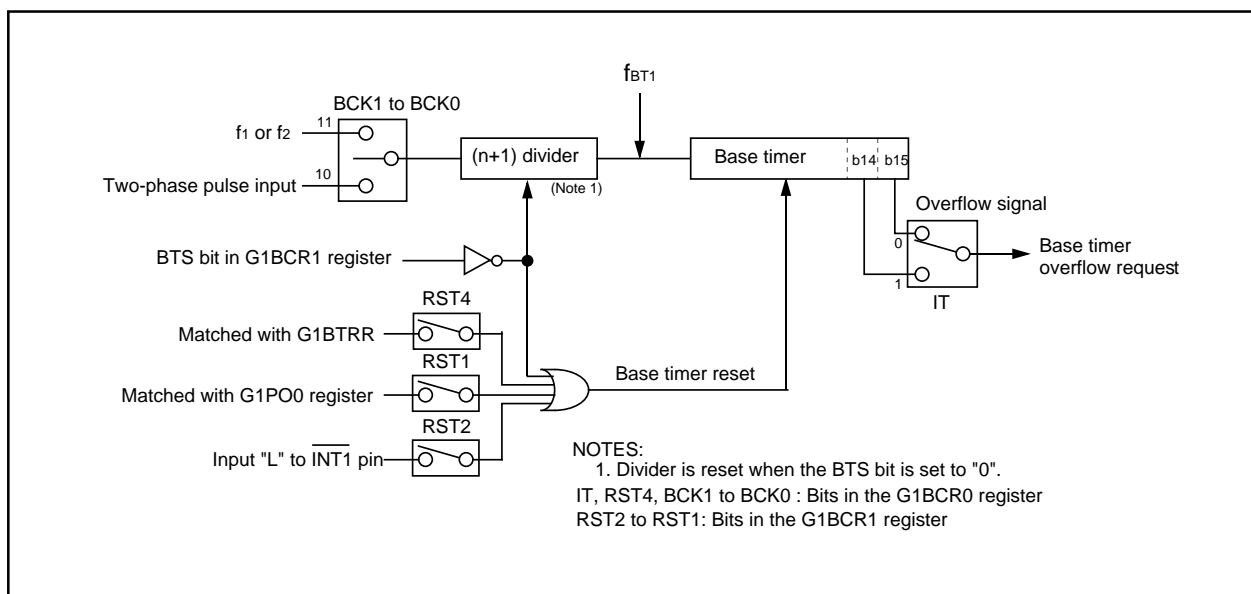
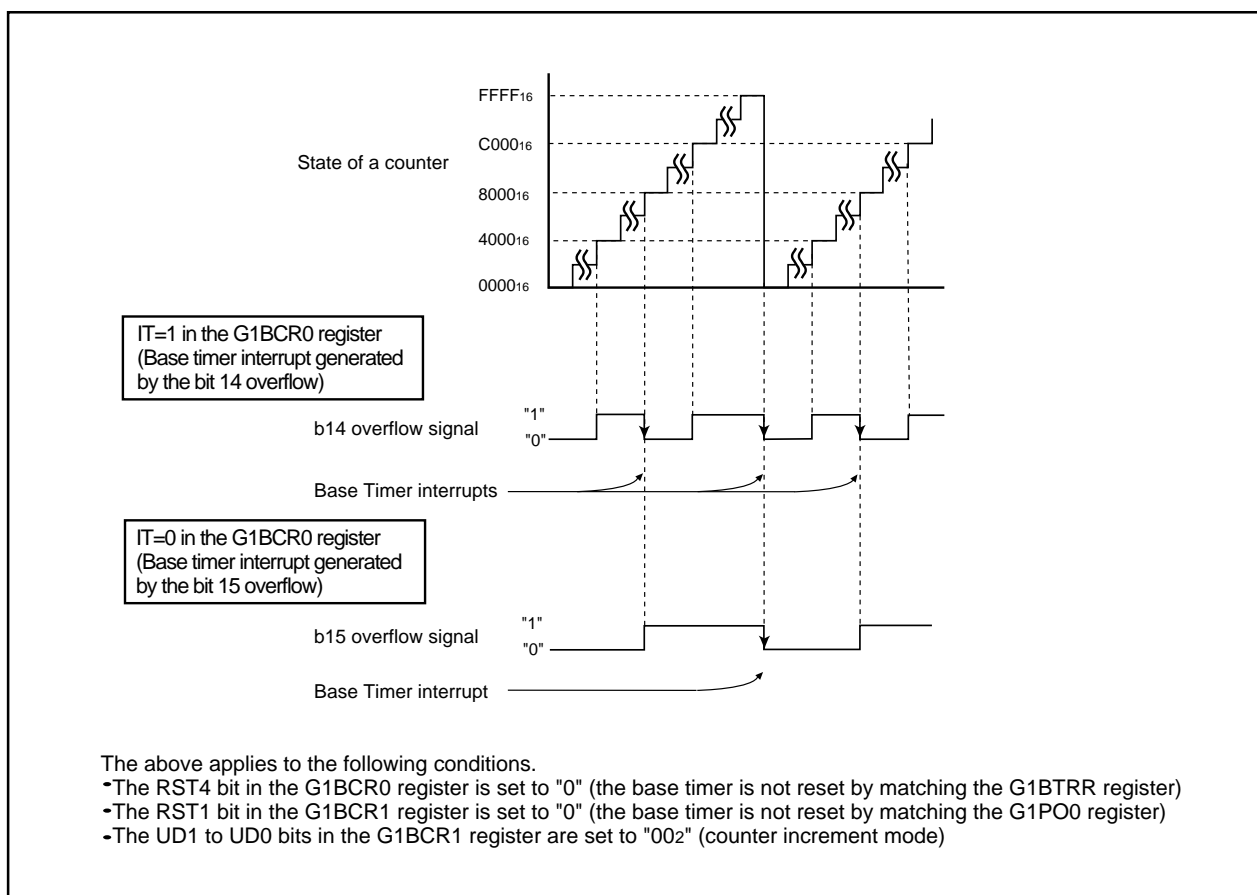
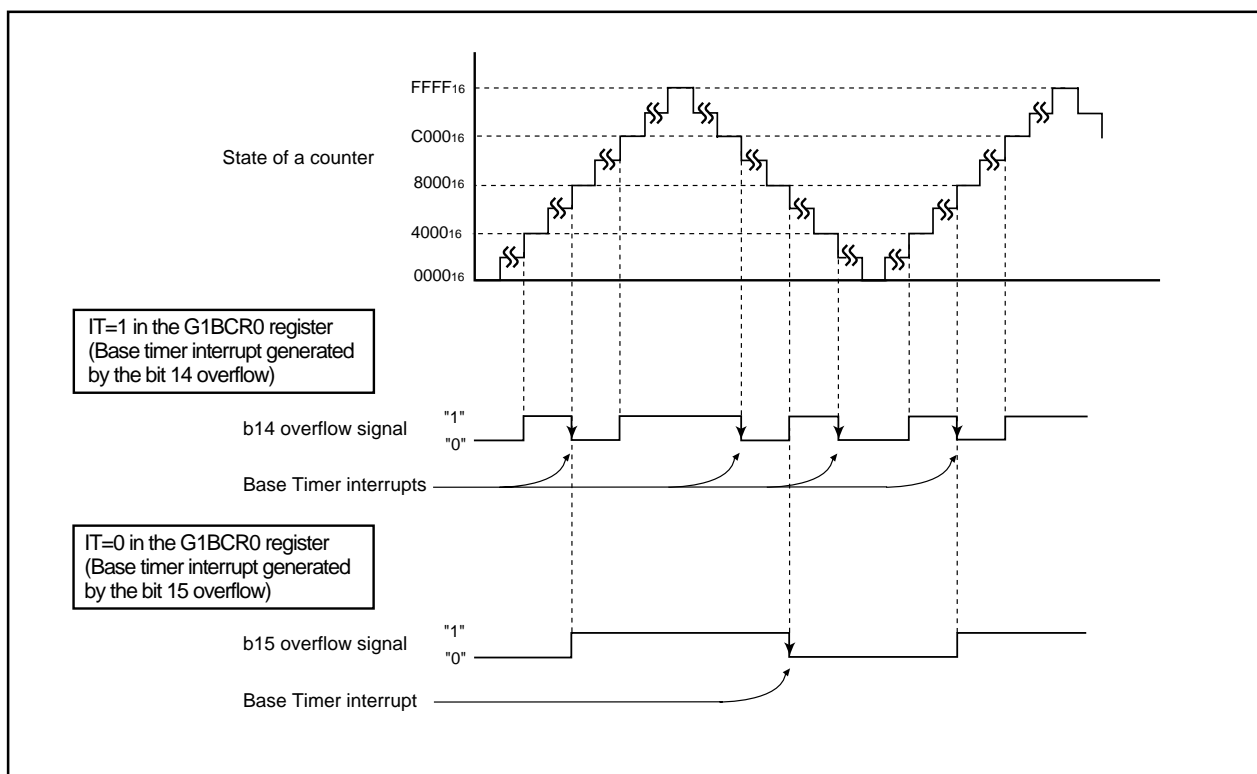
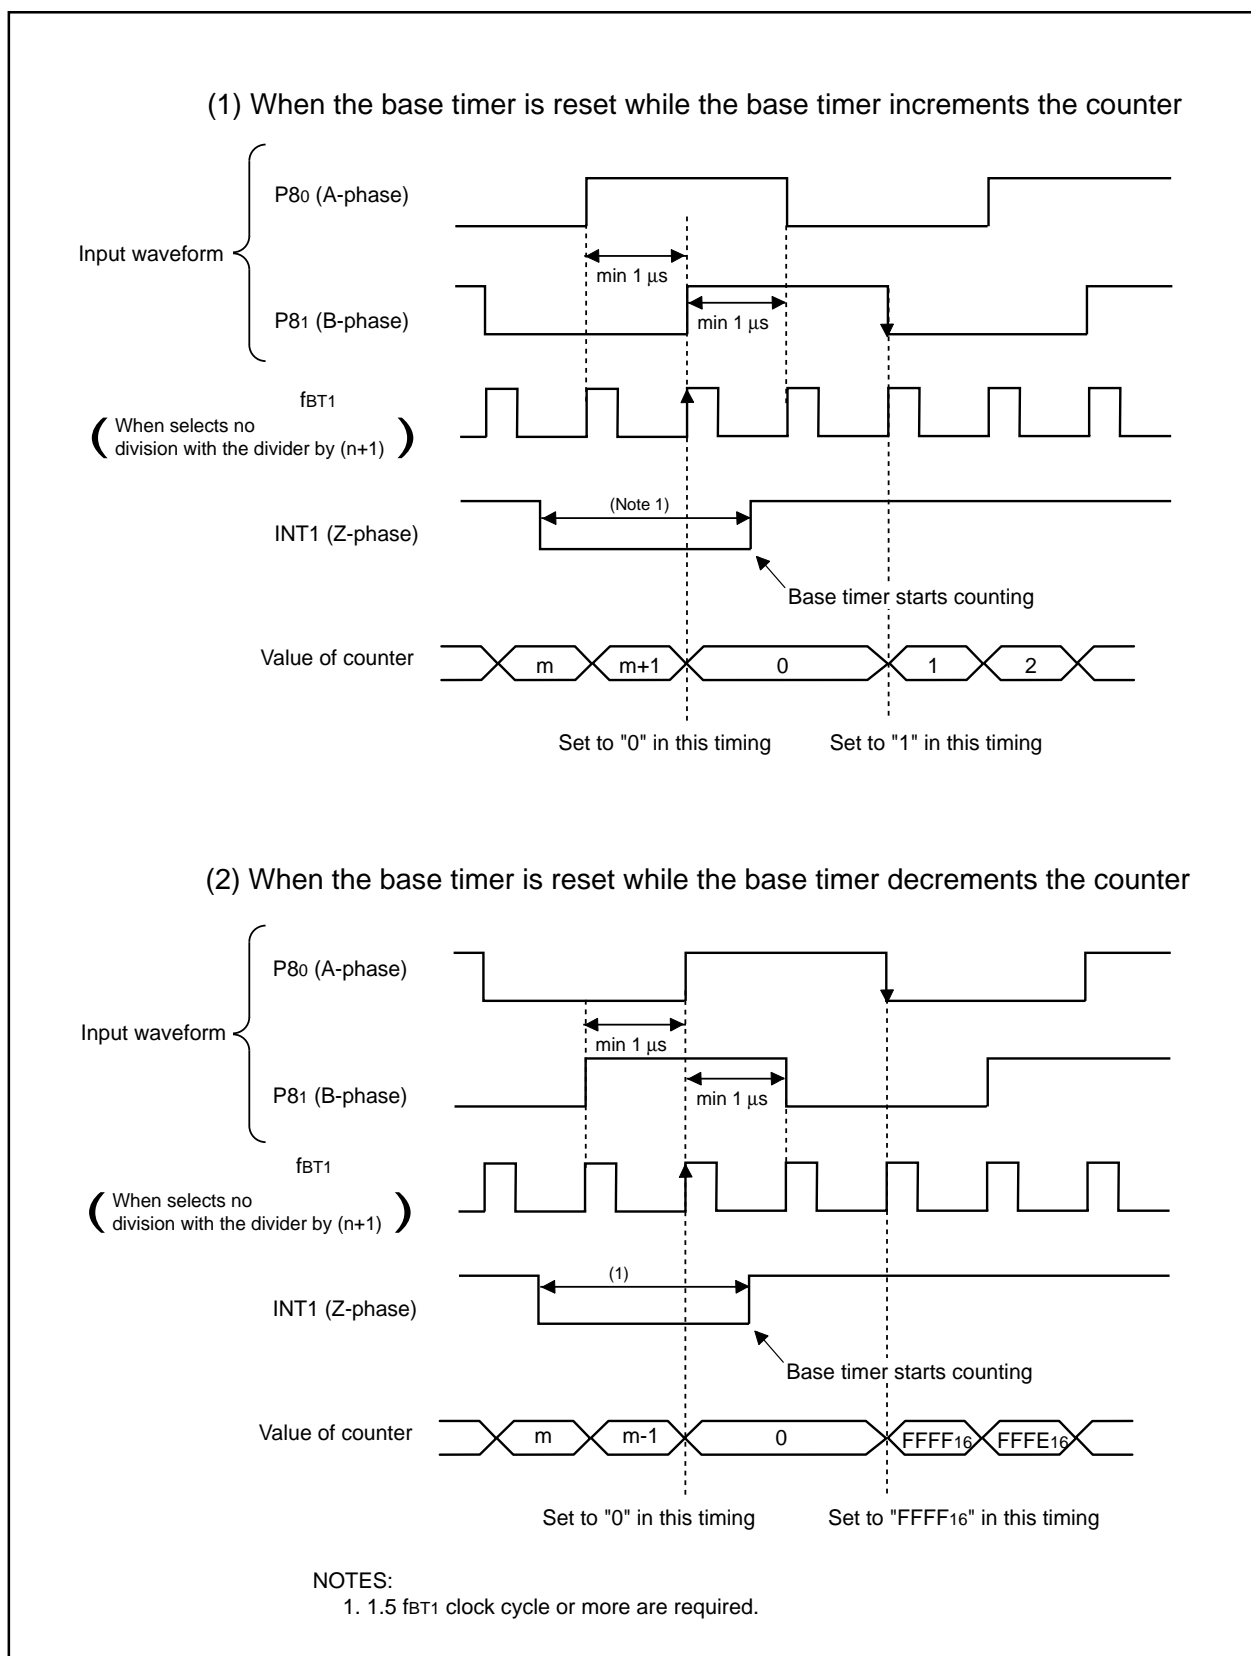

Figure 13.11 Base Timer Block Diagram
Figure 13.12 Counter Increment Mode
Figure 13.13 Counter Increment/Decrement Mode
Figure 13.14 Base Timer Operation in Two-phase Pulse Signal Processing Mode
Figure 13.11 shows a block diagram of the base timer. **Figure 13.12** shows an example of the base timer in counter increment mode. **Figure 13.13** shows an example of the base timer in counter increment/decrement mode. **Figure 13.14** shows an example of two-phase pulse signal processing mode.
Interrupt request	The base timer interrupt request is generated: (1) When the bit 14 or bit 15 in the base timer overflows (2) The value of the base timer value matches the value of the base timer reset register (See Figure 13.11)
Selectable function	<ul style="list-style-type: none"> Counter increment/decrement mode The base timer starts counting from "0000₁₆". After incrementing to "FFFF₁₆", the timer counter is then decremented back to "0000₁₆". The base timer increments the counter value again when the timer counter reaches "0000₁₆". (See Figure 13.13) Two-phase pulse processing mode Two-phase pulse signals from P80 and P81 pins are counted (See Figure 13.14)